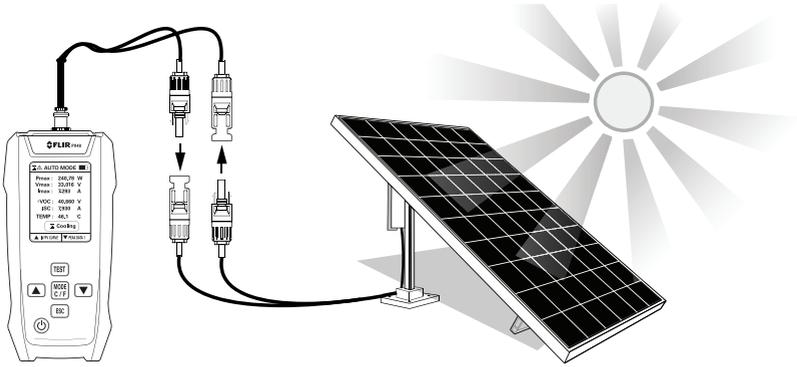

Figure 5.4 Connecting to solar panels and testing in automatic mode.
1. Connect the test probes to the tracer and then to the positive and negative terminals on the solar panel as described in Section 4.5 and shown in Figure 5.4. Do not connect the solar panel to other controllers or testers while testing.